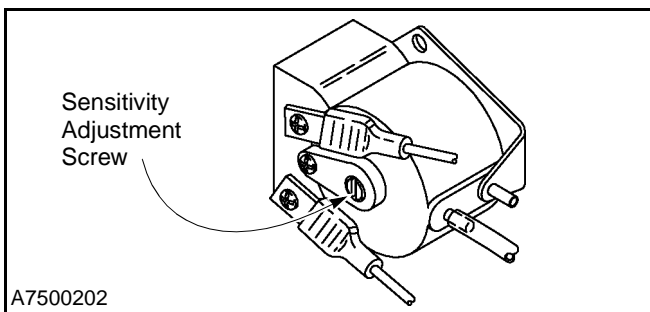

Figure 41
5. To adjust the switch, first turn the small adjustment screw, located on the face of the switch, clockwise or counterclockwise until continuity is achieved across the ohmmeter. (See Figure 41.)